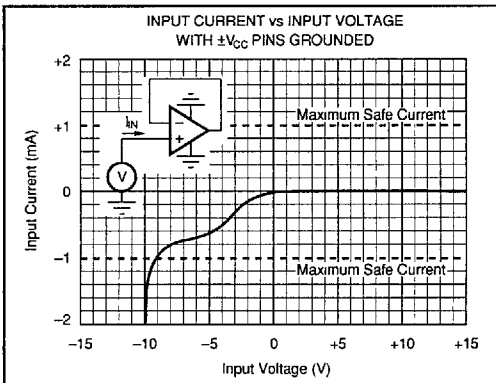

FIGURE 2. Input Current vs Input Voltage with  $\pm V_{CC}$  Pins Grounded.
NOTES: (1) Packages must be derated based on  $\theta_{JC} = 30^\circ\text{C/W}$  or  $\theta_{JA} = 120^\circ\text{C/W}$ . (2) For supply voltages less than  $\pm 18\text{VDC}$  the absolute maximum input voltage is equal to:  $18\text{V} > V_{IN} > -V_{CC} - 8\text{V}$ . See Figure 2. (3) Short circuit may be to power supply common only. Rating applies to +25°C ambient. Observe dissipation limit and  $T_J$ .
Unlike BIFET amplifiers, the *Difet* OPA404 requires input current limiting resistors only if its input voltage is greater than 8 volts more negative than  $-V_{CC}$ . A 10kΩ series resistor will limit the input current to a safe value with up to  $\pm 15V$  input levels even if both supply voltages are lost. (See Figure 2 and Absolute Maximum Ratings).